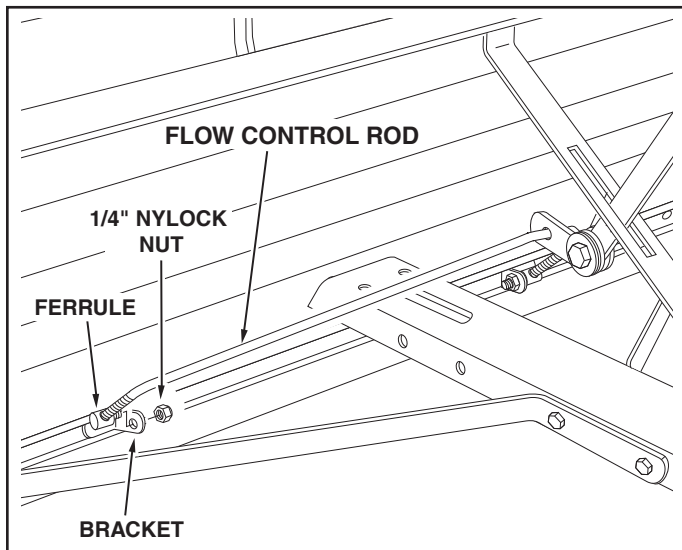

FIGURE 5
11. Make sure that both ferrules are adjusted so that approximately ten threads (1/2") of the control rod is exposed. Insert both ferrules into the brackets which are riveted to the front of the flow plates. Assemble a 1/4" nylock nut onto each ferrule, making only **finger tight** at this time. See figure 5.